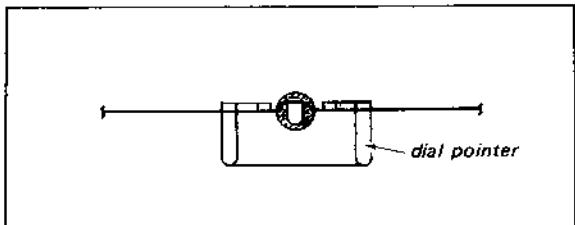
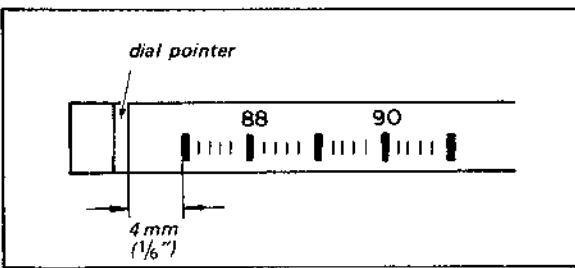

Fig. 2-12 Dial pointer installation
Fig. 2-13 Mechanical dial calibration
1. Put the dial pointer on the cord as shown in Fig. 2-12 and move it to a position where the pointer comes to about 4 mm ($\frac{1}{6}$ ") left from the lowest dial mark (87 MHz) as shown in Fig. 2-13, when the tuning-capacitor drive drum is rotated fully clockwise.